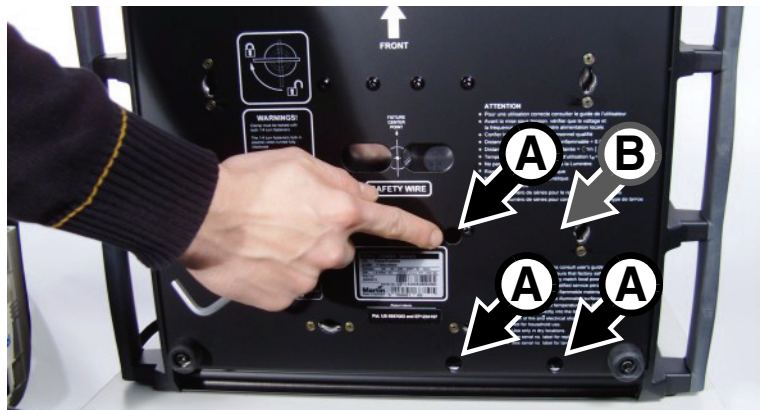

Figure 5
- See Figure 5. Use a 4 mm Allen key to remove the three ballast mounting screws **A** from their holes (arrowed) around the serial number label in the base. In older fixtures, you must also remove a fourth ballast mounting screw **B**. Throw these screws away because three new ballast mounting screws are provided in the Upgrade Kit. When you install the new ballast, you will insert the new mounting screws in the holes at **A**.
38. Check that the new ballast is correctly positioned in the base. Lay the fixture on its side and fasten the ballast with the three Allen screws (P/N 08111201, see “U” in Table 1) supplied in the Upgrade Kit, passing these screws through the base in the holes shown at **A** in Figure 5 on page 6.